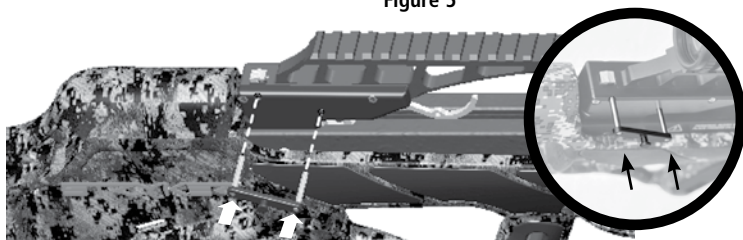

Figure 6: Insert Cease-Fire secondary loading safety into ports after cocking.
6. Install the Cease-Fire safety pin into the trigger shell (see Figure 6). The Cease-Fire pins can go in on either side of the shells.